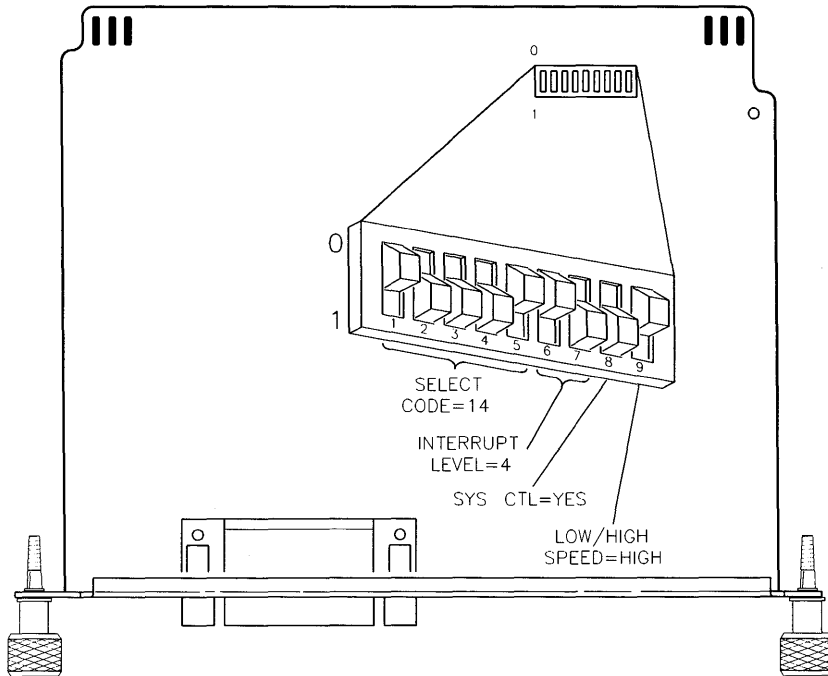

Figure 5-12.
- a. Find the set of nine switches by referring to Figure 5-12. Switches 1 through 5 in this group determine the select code.
- a. Find the set of nine switches by referring to Figure 5-12. Switches 6 and 7 in this group determine the interrupt level.
- b. If using HP-UX, set these switches to interrupt level 4 as shown in Figure 5-12. To get interrupt level 4, set the left switch to 0 and the
- a. Find the set of nine switches by referring to Figure 5-12. Switch 8 in this group determines the system controller setting.
- b. If connecting two computers together via HP-IB, only one of them may be set to system controller. To change this interface to non-system controller, move the system controller switch shown in Figure 5-12 to the 0 position (the opposite of that shown).
SKIP? The Low/High Speed switch is preset to 0, "high speed," as shown in Figure 5-12. This setting is appropriate for most applications. If you want to change this setting, continue with step 5; otherwise skip to step 6.
- a. Find the set of nine switches by referring to Figure 5-12. Switch 9 in this group is the Low/High Speed switch.
- To set this switch to "low speed," set switch 9 to *1*, which is opposite of that shown in Figure 5-12.
- To set this switch to "high speed," set switch 9 to *0* as shown in Figure 5-12.